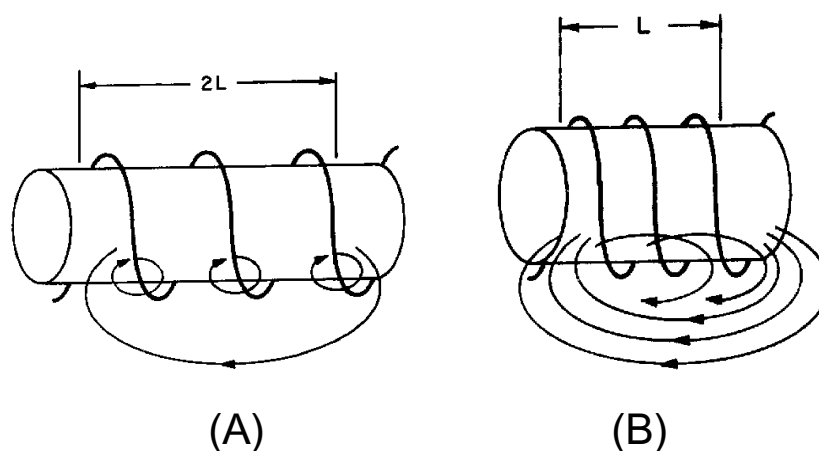

Figure 2-7.—Inductance factor (coil length). CLOSELY WOUND
The third factor that affects the inductance of a coil is the length of the coil. Figure 2-7 shows two examples of coil spacings. Coil (A) has three turns, rather widely spaced, making a relatively long coil. A coil of this type has few flux linkages, due to the greater distance between each turn. Therefore, coil (A) has a relatively low inductance. Coil (B) has closely spaced turns, making a relatively short coil. This close spacing increases the flux linkage, increasing the inductance of the coil. Doubling the length of a coil while keeping the same number of turns halves the value of inductance.